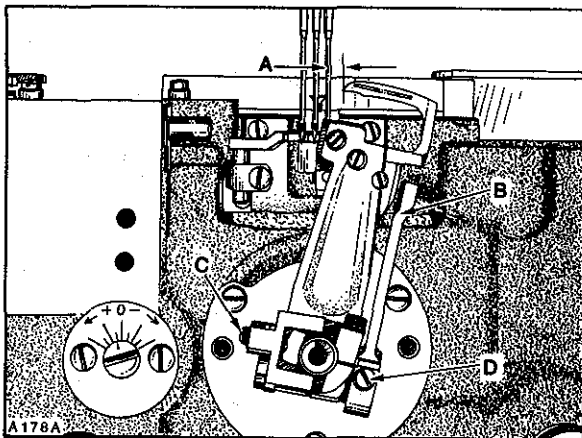
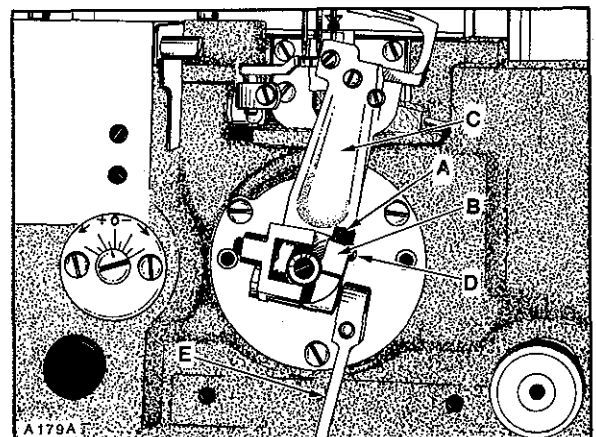

Fig.9
Fig.10
If not previously done, insert a new set of needles; type and size specified. With looper holder at EXTREME right end of travel, distance from centerline of RIGHT needle to point of RIGHT looper should be dimension (A, Fig. 9); see chart. Adjustment can be made by pulling release lever (B) down and loosening screw (A, Fig. 10) in stop collar (B). Apply pressure against the upper portion of looper
holder (C) to the LEFT while turning screw (D) in looper holder clockwise to increase looper gauge or counterclockwise to decrease. Applicable looper gauge can be used advantageously in making this adjustment. Continue to apply pressure against upper portion of looper to the LEFT while turning stop collar (B) to its EXTREME CLOCKWISE position and tighten screw (A) securely. Push up release lever (E) to lock looper holder in position. Adjust screw (C, Fig. 9) which incorporates a spring plunger, against the recess in cam of stop collar as required to attain the following conditions:
In locked position, the release lever should be approximately in line with middle looper as viewed from the right side of looper holder. Adjustment can be made by loosening screw (D, Fig. 9), reposition release lever as required and retighten screw.
Loopers must also be set so, as they travel to the left behind the needles, NOT to touch, but with a MAXIMUM clearance of .002 inch (.051mm). Adjustment can be made by pulling release lever down, loosening screw (A, Fig. 10) in stop collar (B) allowing looper holder to be moved forward or rearward on its shaft, as required. Apply pressure against upper portion of looper holder to the LEFT while turning stop collar (B) to its EXTREME CLOCKWISE position and tighten screw (A) securely and push release lever up in locking position. RECHECK looper gauge.